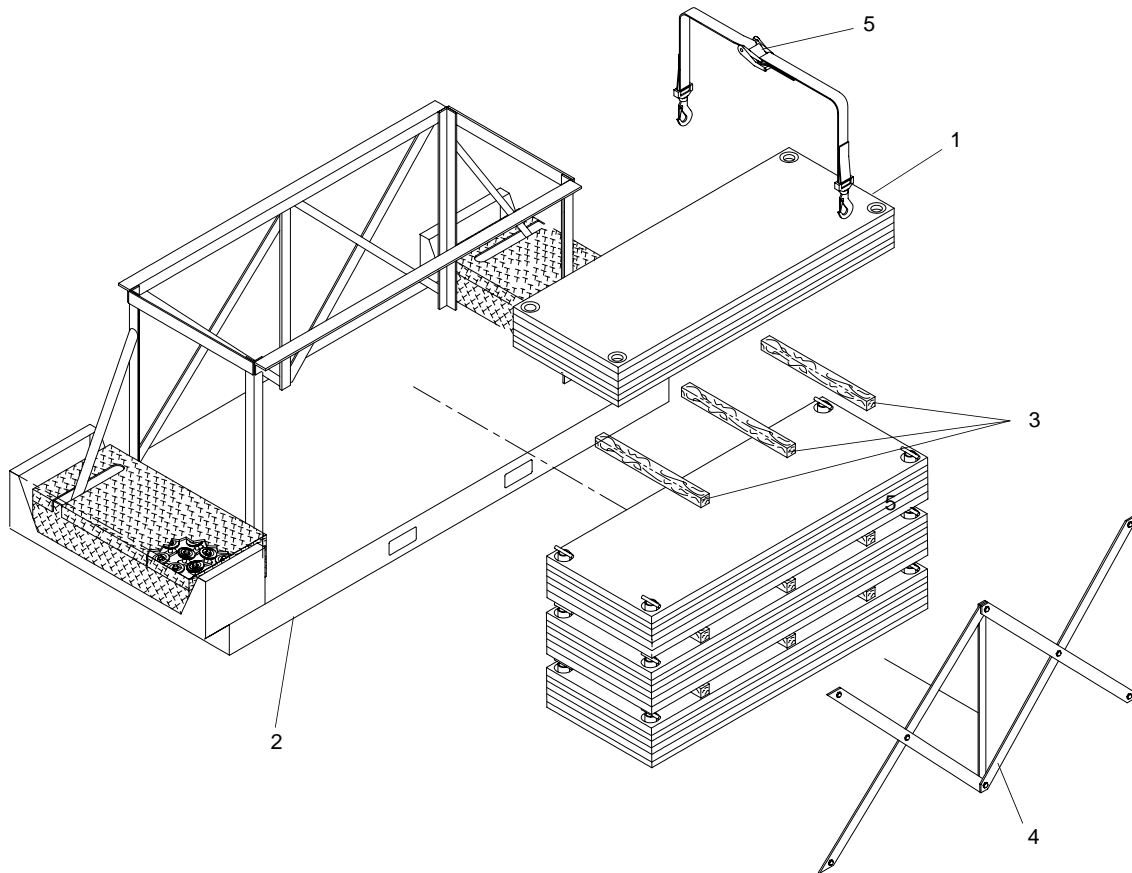

Figure 31. Deck Matt Pallet Stowage
10. Stow deck mat stacks (figure 31, item 1) on deck mat pallet (figure 31, item 2).
- a. Position three wood beams (figure 31, item 3) on deck mat pallet (figure 31, item 2).
- b. Using forklift, or appropriate handling device, place first stack of deck mats (figure 31, item 1) on deck mat pallet (figure 31, item 2).
11. Repeat previous step for remaining deck mat stacks (figure 31, item 1).
12. Install flat bars (figure 31, item 4) on side of deck mat pallet (figure 31, item 2).
13. Install ratchet strap tie downs (figure 31, item 5).